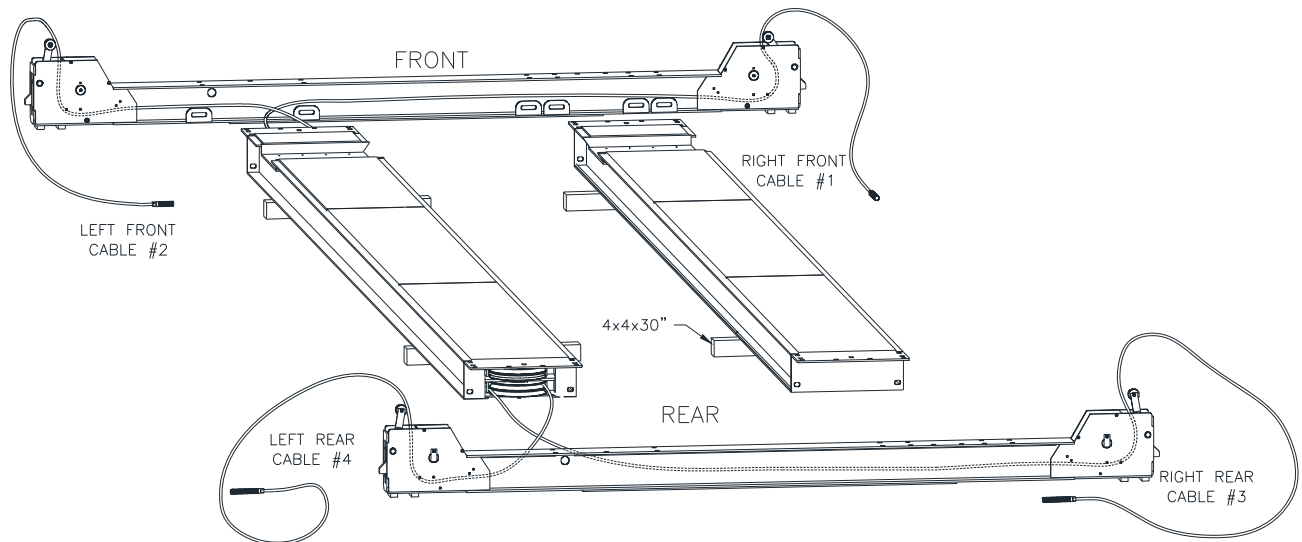
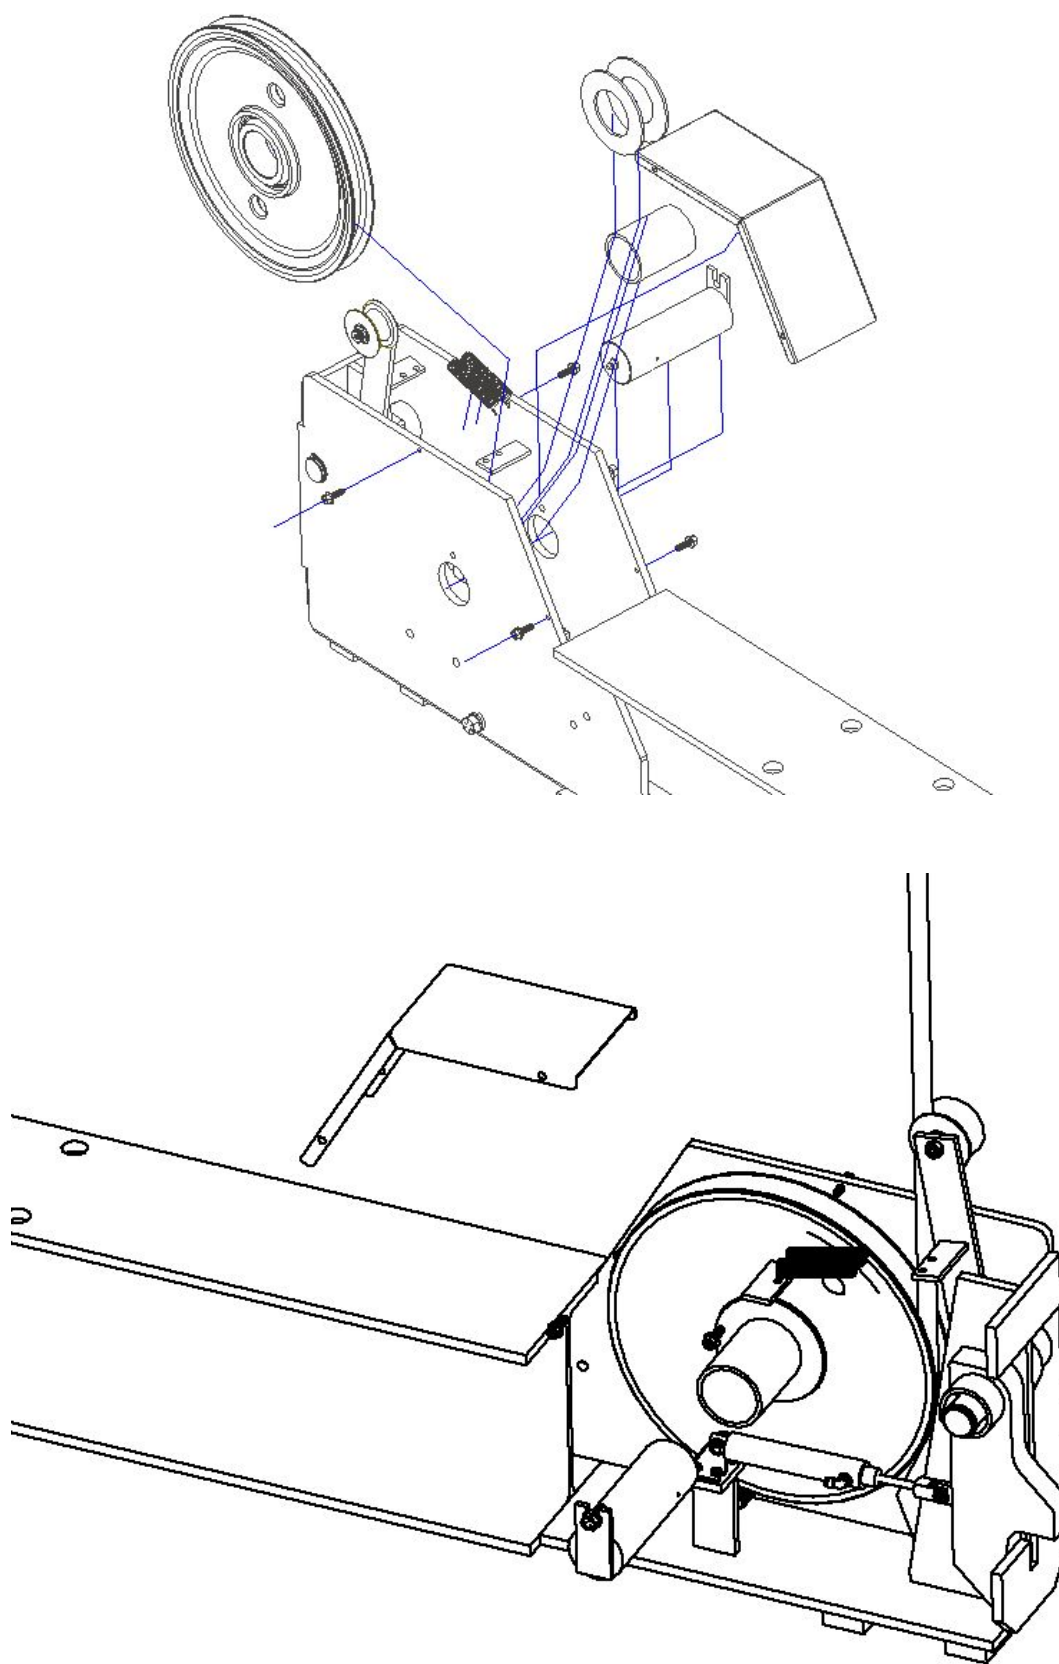

Fig 5 – Runway Layout
Fig 6 - Cross Rail Assembly
- 3) Position runways on blocking, see **Fig 5**, per layout lines established in step 1. Use four 30" long 4x4's spanning the width of the runway. Cables #3 and #4 should be extending out from the rear of the power runway and cables #1 and #2 from the front of the power runway, **Fig 5**.
- 4) Position the front and rear cross beams, **Fig 5**.
- 5) Feed Cable #3 through the cross beam, **Figs 5 & 6**. Note: The Slack Cable Latch springs must be removed, but the Cross Beam Sheaves do not. Feed cable thru above air cylinder and then on to the sheave, see **Fig 6**.
- 22) Install the four cable ends with one flat washer, one load nut, and one jam nut. See Item's 21, 22, & 23 on page 15. Pull the cables, on until the tension of the cables overpowers the springs on the cross beam (disengages the locks). The Slack device pulley mechanism should be vertical, as shown on figure 5. The cables need to be inserted on the top hole of the column. Ensure the cable is aligned with the cross beam sheaves. (Do not put tension on the slack device if it is setting on the locks to avoid damage).